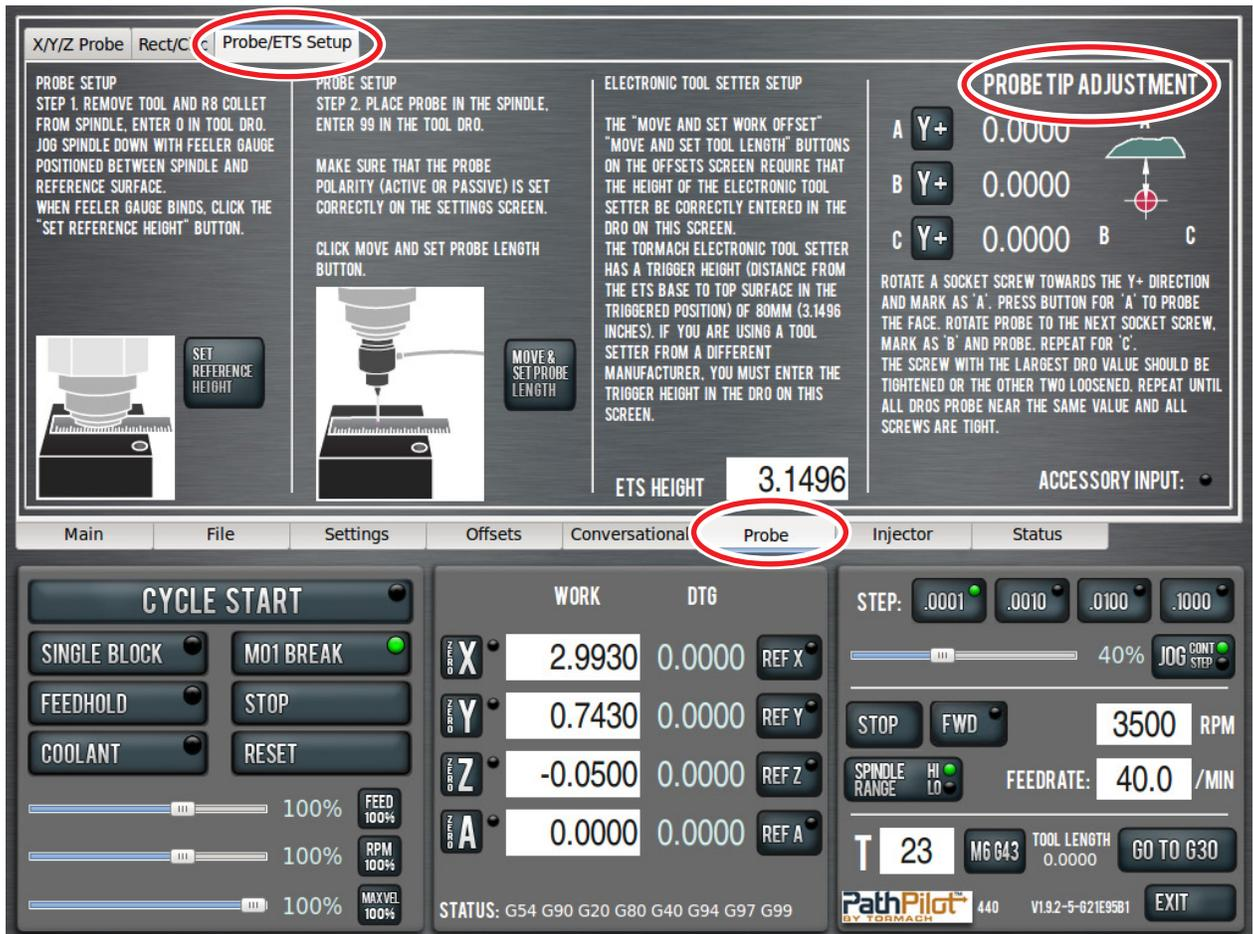

Figure 8.10
1. On the *Probe* screen, click the *Probe/ETS Setup* tab (see **Figure 8.10**).